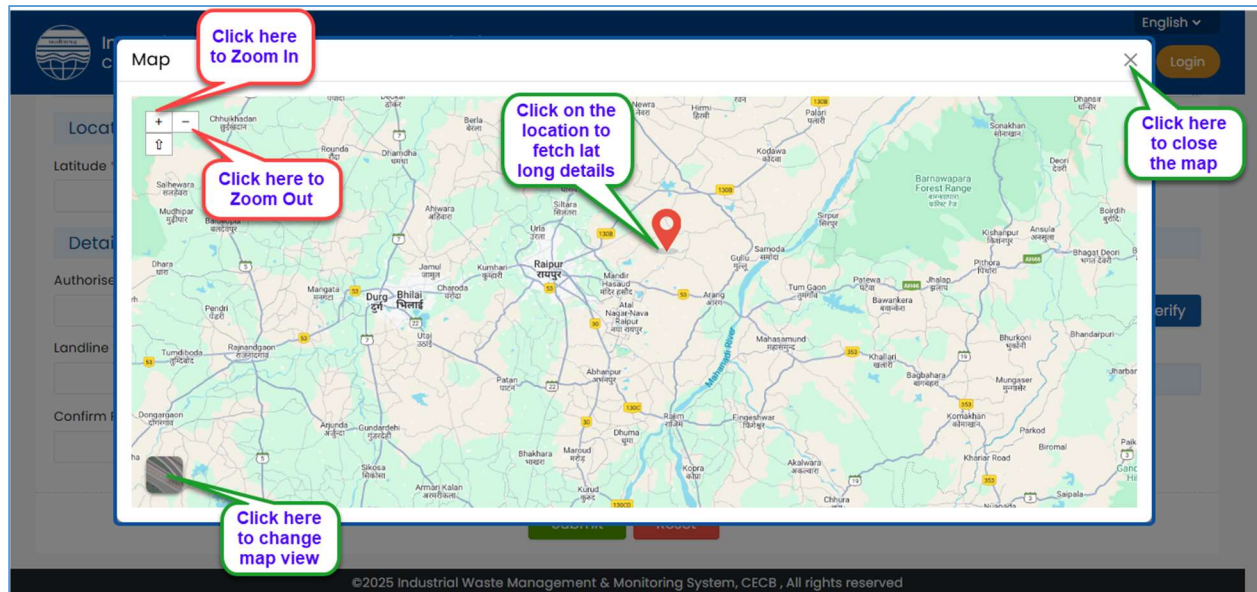

Figure 2-5 Map Screen
- To fetch the Lat-Long details, click on the location in the map as displayed in **Fig 2-5**.